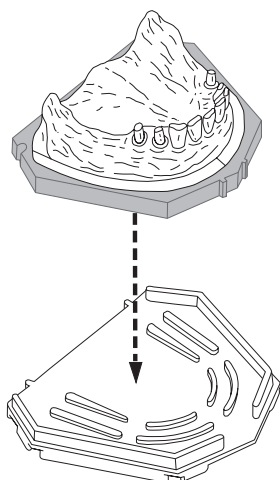

Fig. 2
8. Reverse base into eject position and eject model by carefully pressing Accu-Trac toward base with uniform pressure to avoid model breakage (Fig. 2).